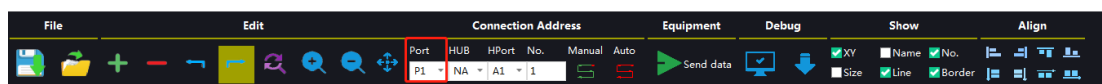

Figure 4-3-6 Set the receiving card that carried by the network port of the sending card
(1) **Set the receiving card that carried by the network port of the sending card:** Select the receiving card connected to each network port of the sending card, and set the network port of the sending card to which the receiving card belongs, as shown in Figure 4-3-6.